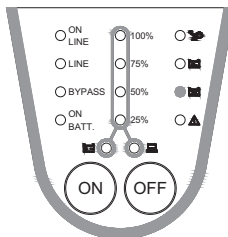

Fig. 4-6 Battery Replace
- ✓ **BATTERY REPLACEMENT:** This LED function is to alert users that the batteries should be replaced. When the microprocessor in the UPS detects a battery fault, the UPS alarm will beep for 0.1 seconds every 2.0 seconds. See Fig. 4-6.